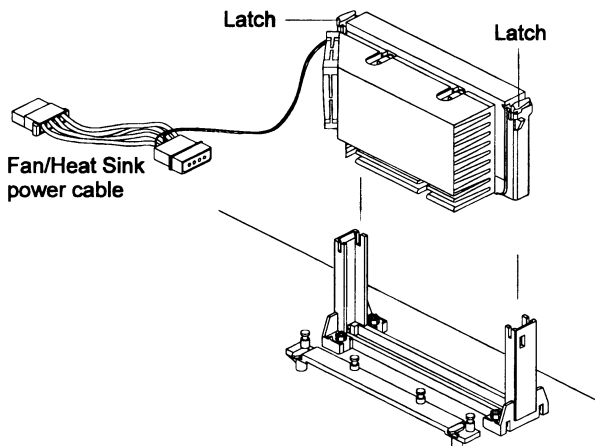

Figure 2-12: Mounting the Pentium II processor.
1. Push the latches on the processor toward the center of the processor until they click into place (see Figure 2-12).